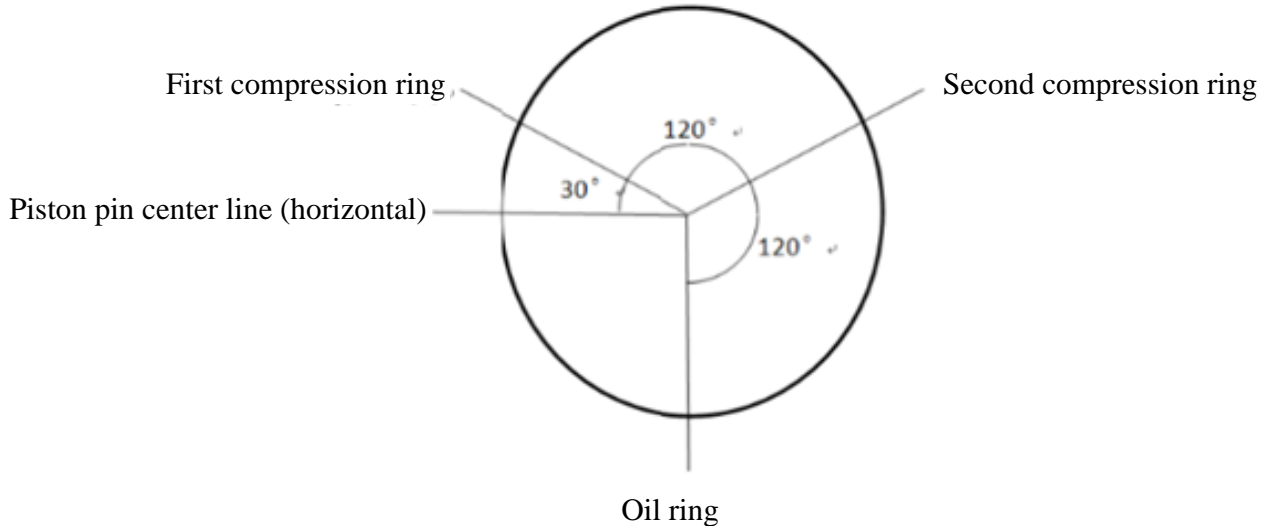

Fig. 4-35 Schematic diagram for installation of piston rings
- (1) Install one circlip into piston circlip groove with internal circlip plier, and rotate the circlip to ensure it is properly fitted. The end with corner angle should face inward, and its opening should be upward.
- (2) Insert small end of connecting rod into piston inner cavity and align it to piston pin holes, and then install piston pin, finally install the other circlip to the other side of the piston. Note that connecting rod oblique incision and piston cooling oil gallery inlet should be in the same direction, apply proper clean lubricating oil on connecting rod small end hole and piston pin.
- (3) Arrange the assembled piston-rod assembly in cylinder number order, and then install oil ring, second compression ring and first compression ring into piston ring grooves orderly with piston ring plier. The face with mark "TOP" should be upward, and the ring should be flexible in ring groove.
- (4) Clean up cylinder inner wall, crankshaft connecting lever and piston-rod assembly, and apply clean lubricating oil on each motion pair.
- (5) Adjust opening direction of each ring: The opening direction of first compression ring should be 30° to piston pin center line, opening direction of the second compression ring should be 120° to that of the first compression ring, and opening direction of oil ring should be 120° to both that of first compression ring and second compression ring, also should be perpendicular to piston pin center line. As shown in Fig. 4-35.